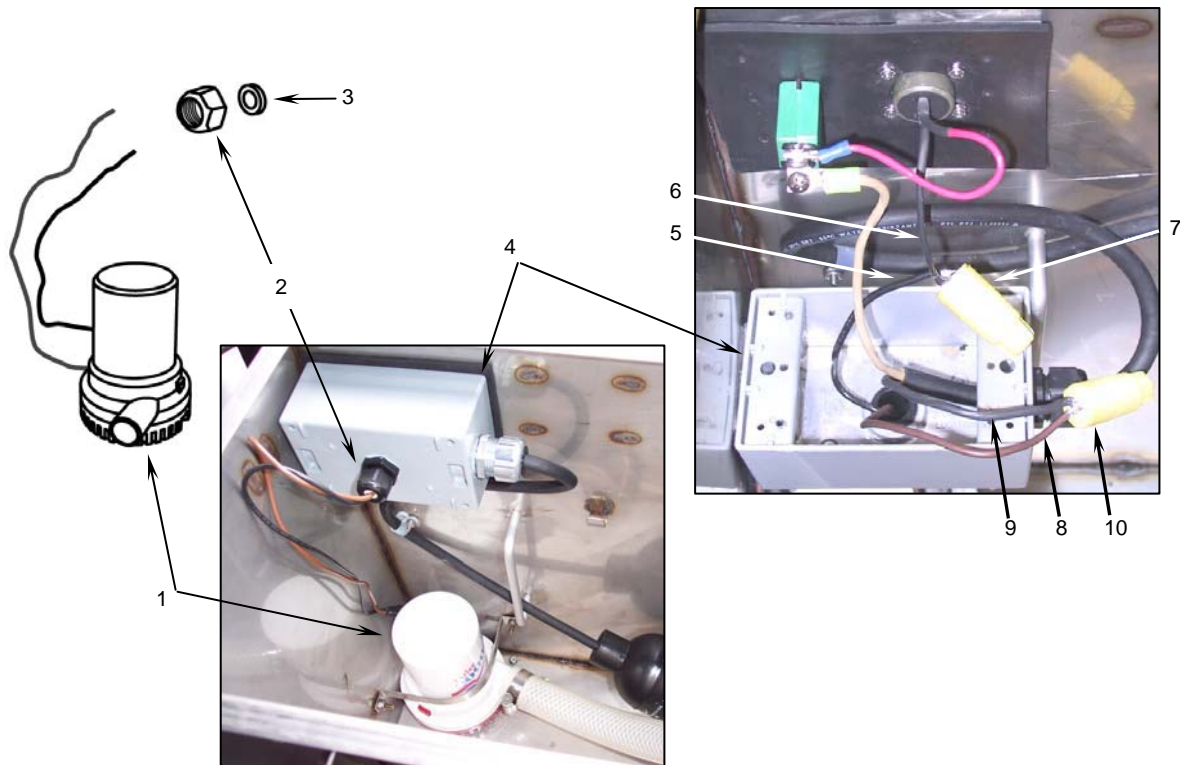

Figure 4. Connecting the New Grease Separator Pump Wiring.
- a. Set the new pump (**Figure 4, Item 1**) at the bottom of the pump compartment. Do not install the pump mounting bracket yet.
- b. Slide the pump wires through the pump cord connector nut (**Figure 4, Item 2**), the sealing washer (**Figure 4, Item 3**), and the weatherproof box (**Figure 4, Item 4**).
- c. Twist the black pump wire (**Figure 4, Item 5**) together with the black electrical connector wire (**Figure 4, Item 6**) as tagged and secure using a new watertight wrenut (**Figure 4, Item 7**).
- d. Twist the brown pump wire (**Figure 4, Item 8**) together with the black float switch wire (**Figure 4, Item 9**) as tagged and secure using a new watertight wrenut (**Figure 4, Item 10**).
- e. Position the sealing washer (**Figure 4, Item 3**) over the connector and tighten the pump cord connector nut (**Figure 4, Item 2**) onto the connector.